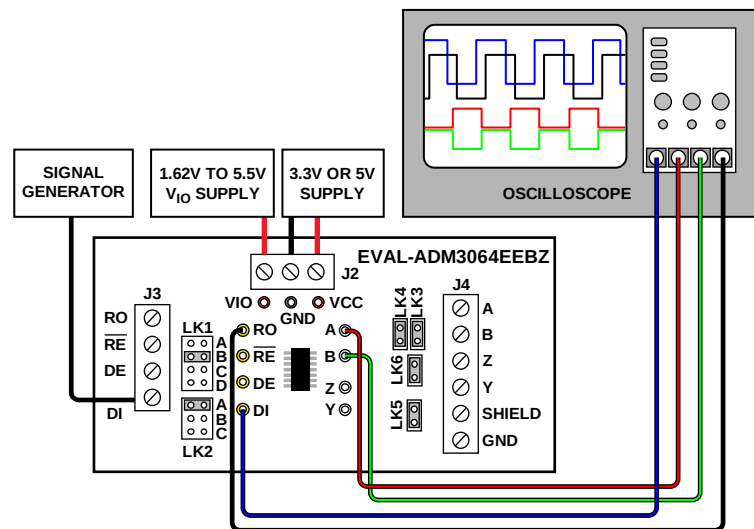

Figure 3. Full Duplex RS-485 Loopback Test
To set up a loopback test for the EVAL-ADM3064EEBZ, connect the benchtop power supply to the VCC and VIO terminals of the J2 connector. Close the LK4 and LK6 jumpers. This test setup is shown in Figure 3. A signal generator is connected to the DI pin to allow verification of the bus signals and the receiver output. Note the jumper positions of LK1 (B) and LK2 (A) for the EVAL-ADM3064EEBZ. Ensure that the LK3 and LK5 jumpers are also closed. The default termination resistors can be used in this configuration because both 120 Ω resistors on the EVAL-ADM3064EEBZ are connected in parallel by the loopback. These connections ensure that the test is conducted with a standard RS-485 load of 60 Ω with the bus terminated at both ends by 120 Ω .